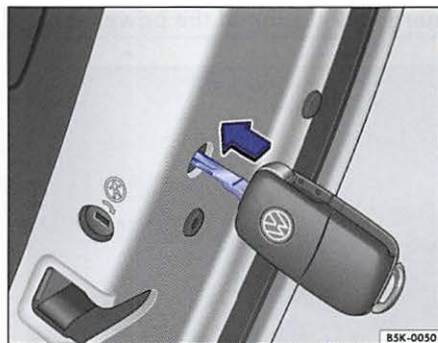

Fig. 170 Using the vehicle key to lock the vehicle.
- Insert the key bit horizontally into the slot and press the small colored lever forward ⇒ page 323, fig. 170.